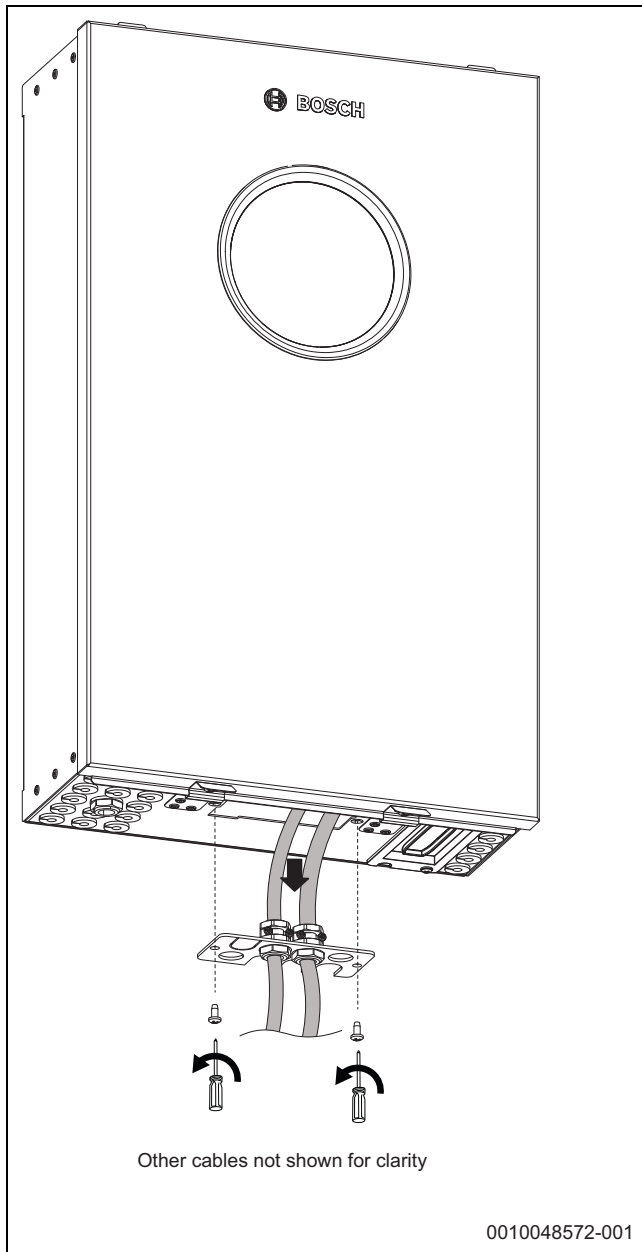

Fig. 30 Lowering the strain-relief plate
- Unscrew and carefully lower the strain-relief-plate as shown in fig 30 Lower the plate until resistance is felt, do not pull strongly to prevent damage to other cables/ connectors